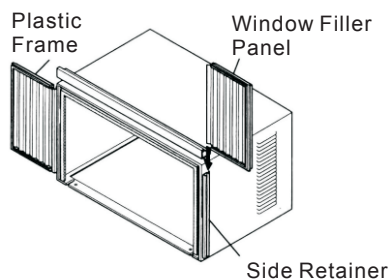
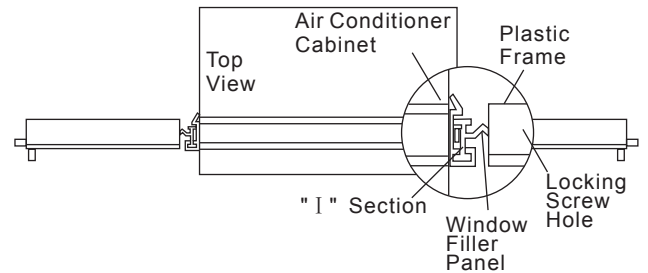

Fig.9
Fig.10
2. Slide "I" section of window filler panel into side retainer on the side of the cabinet (see Fig.9 & Fig.10).